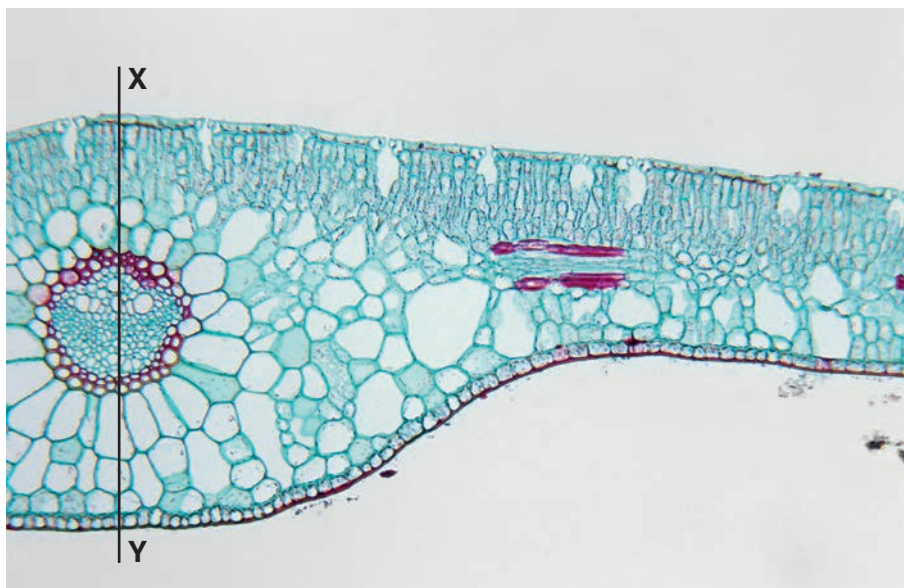

Fig. 2.2
- (b) Fig. 2.2 is a photomicrograph of a stained transverse section through part of a leaf from a different type of plant.
- (ii) Suggest a habitat where this plant might grow and **one** observable feature, shown in Fig. 2.2, which adapts it to this habitat.
- (c) Prepare the space below so that it is suitable for you to record observable differences between the leaf on **K1** and the leaf in Fig. 2.2.